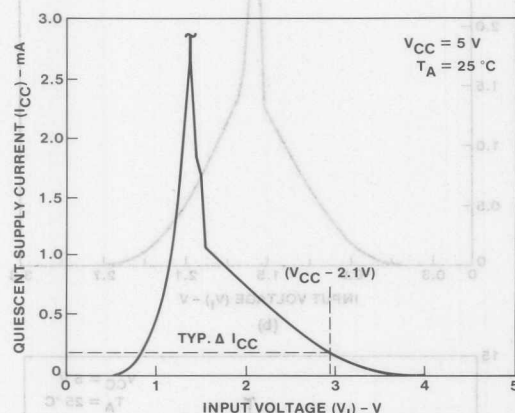

Fig. 27. Quiescent supply current ( $I_{CC}$ ) as a function of input voltage ( $V_i$ ) for ACT types.
Fig. 26 illustrates the typical  $I_{CC}$  as a function of  $V_i$  for AC devices. Note in Fig. 26 (c) that when  $V_{IN}$  equals 0 to 0.5 volt or 4.5 to 5 volts, zero current flows. Thus, no  $\Delta I_{CC}$  component is required for computing the power consumption of AC device types. The transient switching currents of an IC, however, consume power and are part of the  $C_{PD}$  value. The plots of  $I_{CC}$  and  $V_i$  of Fig. 26 show peak  $I_{CC}$  of up to 12 milliamperes. For a few nanoseconds, however, up to 100 milliamperes could flow if the plotter resolution permitted. Note that the switching points (peak current points) in the AC devices occur at approximately 50 per cent of  $V_{CC}$ . For the ACT devices (shown in Fig. 27) the switching point is at approximately 30 per cent of  $V_{CC}$ .
Fig. 27 illustrates the typical  $I_{CC}$  as a function of  $V_i$  for ACT devices. Again, if the input voltage is other than 0 to 0.5 volt or 4.5 to 5.5 volts, no  $\Delta I_{CC}$  value exists. If  $V_i$ , however, is a TTL logic high level of 2.9 volts with a  $V_{CC}$  of 5 volts, then significant  $\Delta I_{CC}$  does exist (0.2 milliamperes) and is indicated in equation (B) as the  $\Delta I_{CC}$  component.